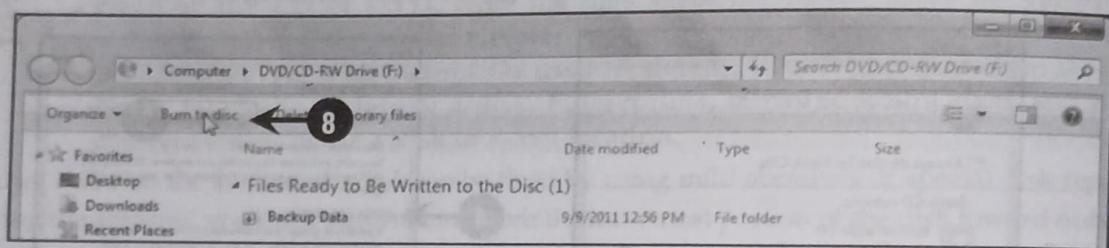

Fig.HD-8.10
- Click the Burn to disc button on the Toolbar in the DVD/CD-RW Drive (F:) window, as shown in Fig.HD-8.10: